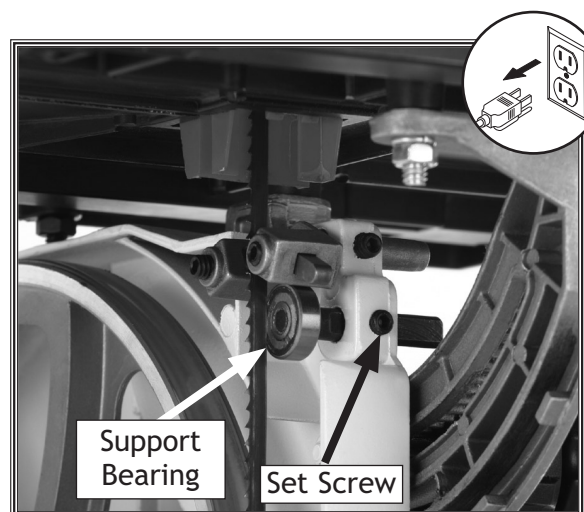

Figure 34. Lower support bearings.
2. Loosen the lower support bearing shaft set screw (**Figure 34**).